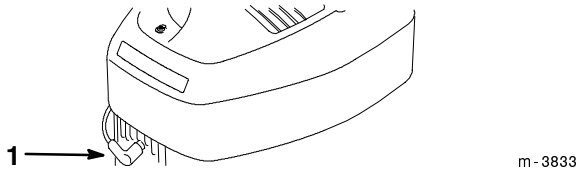

Figure 40
3. Remove the spark plug (Fig. 40) and spin the engine rapidly using the starter to blow out the excess oil from the cylinder. Clean the spark plug or replace it if it is cracked, broken, or if the electrodes are worn.
2. Disconnect the wire from the spark plug (Fig. 40) before installing or removing grass chute.